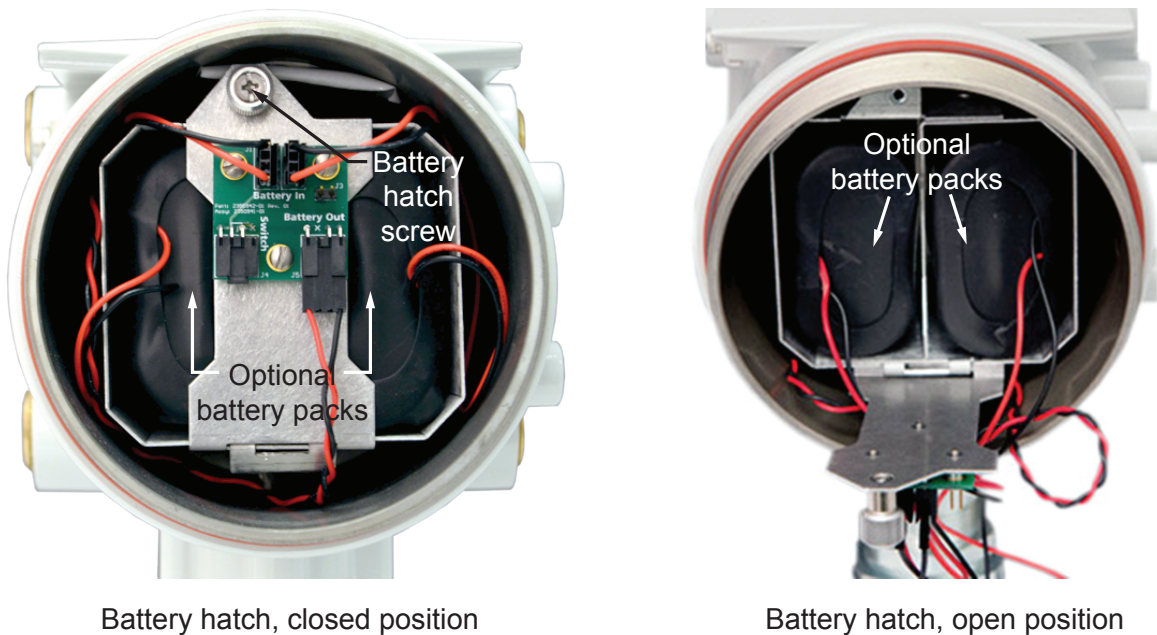

Figure 5.1—Removal of the battery pack from the enclosure
2. Loosen the battery hatch screw with a screwdriver (Figure 5.1, page 76).
4. Disconnect the battery from the J1 connector on the battery board and remove one of the spent battery packs from the enclosure (Figure 5.1). For sustained power, replacing one battery pack at a time is recommended.